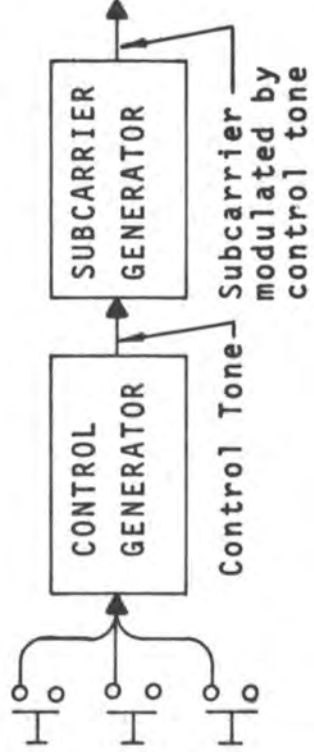
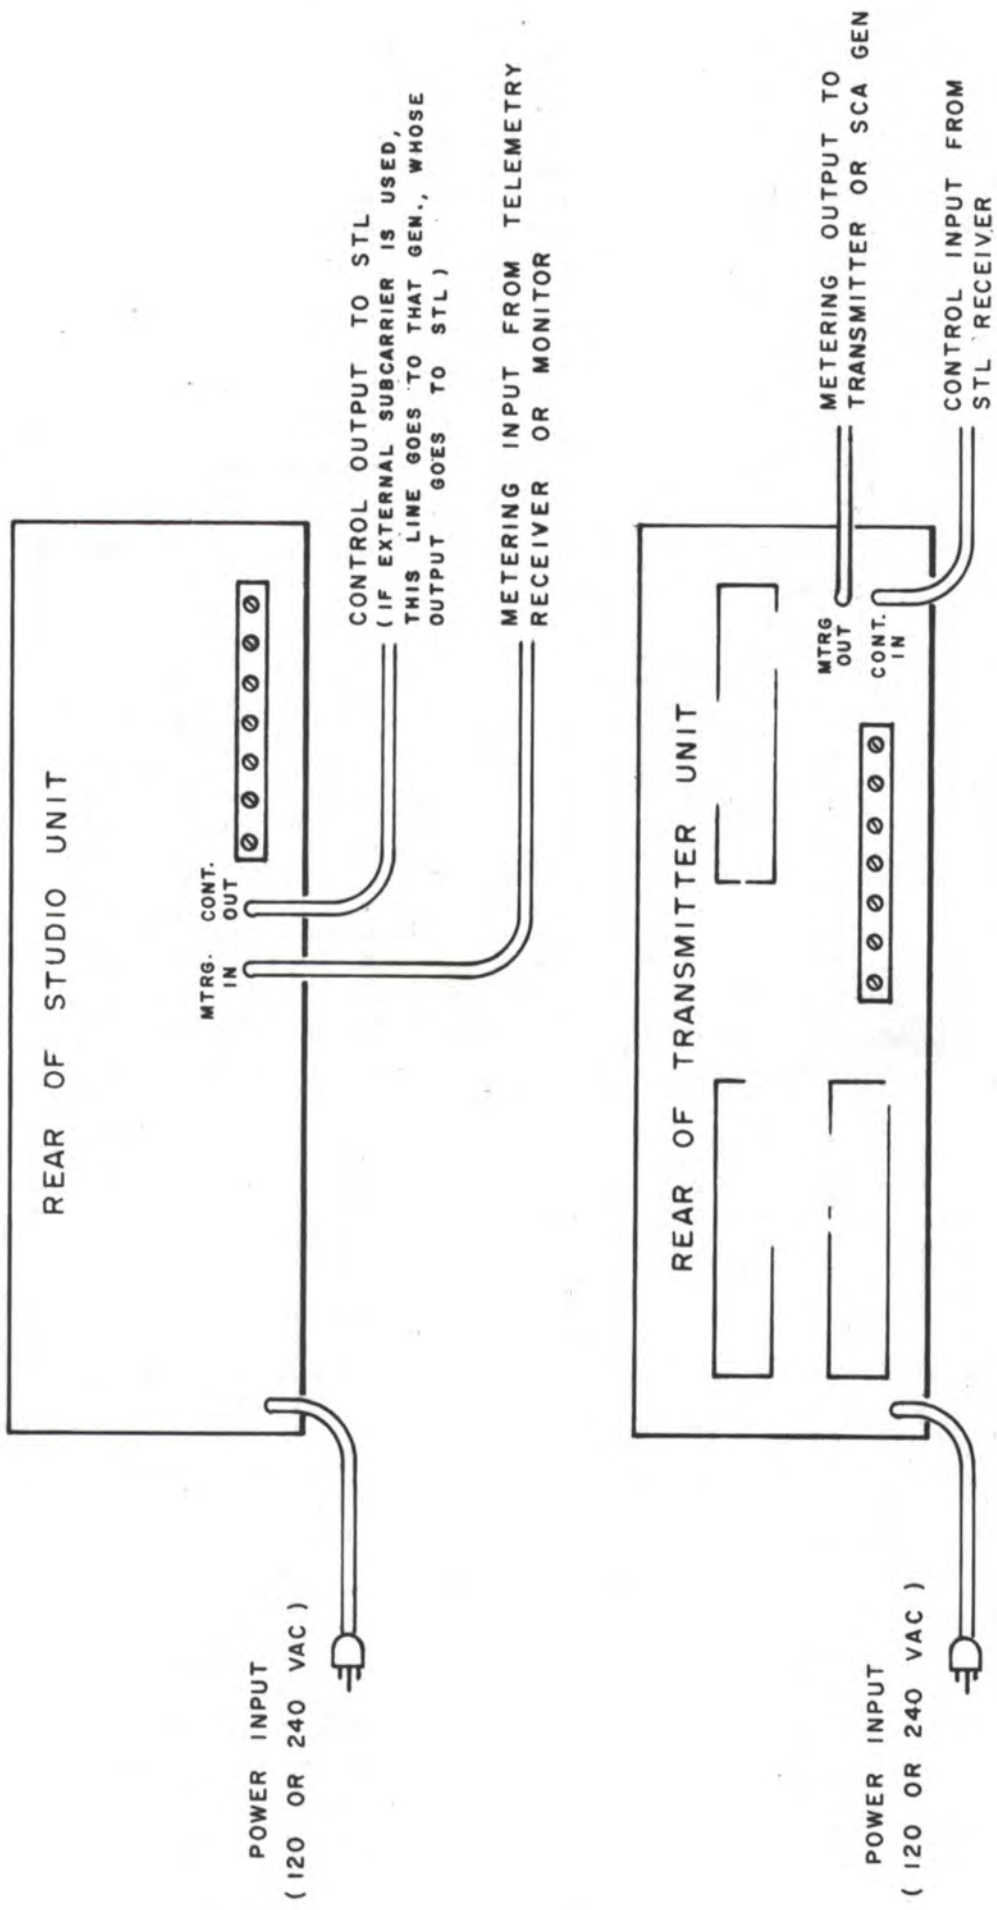

Fig. 2 - Basic Wireless FM version of the TRC-15A.
FIG. 6 - WIRELESS INTERCONNECTIONS
The wire-line system is illustrated in block diagram form in Figure 1, and the elementary radio system is illustrated in Figure 2.
If the telephone line interconnection is not used, the control signals are sent to the transmitter site by using subcarrier techniques. As shown in Figure 2, the control generator at the studio frequency-modulates a subcarrier generator. The output of this subcarrier generator is then applied to the multiplex or subcarrier input of an STL (microwave) transmitter. In this manner, the control signals "ride piggyback" on the STL going to the transmitter site. This subcarrier generator is a standard addition to the studio unit of the TRC-15AR for wireless operation.
Equipment shown is the same as in Fig. 2 with added optional subcarrier equipment for metering return. A subcarrier generator has been added for telemetry-only service at "A", and an internal subcarrier has been added for demodulation of this subcarrier at "B".
If the FM transmitter does not contain an SCA generator, then a subcarrier generator is installed at the transmitter site as shown at "A" in Figure 2. If program service is to be accommodated, the Moseley Associates Model SCG-4T SCA Generator is recommended. No modifications are necessary to it or to the TRC-15AR for such operation. If program service is not a requirement, then an internal subcarrier generator can be added to the TRC-15A transmitter unit as shown in Figure 3. This telemetry-only SCA generator is installed in place of the subcarrier generator jumper/terminating board in the TRC-15AR transmitter unit. Such an added subcarrier generator at the transmitter site is an available option which may be added to the standard wireless TRC-15AR.
Figure 4 illustrates a modification of the wireless FM installation applicable for wireless AM broadcast transmitters. Here the control tones are conveyed to the transmitter site as in Figure 2, but the metering tone is returned to the studio directly on the main AM broadcast signal. As in the case of FM with its SCA subcarrier, the metering signal is in the 20 Hz to 30 Hz range. The modulation of the AM carrier by the subaudible metering signal is set to about 5%. (6% is the maximum allowed by the FCC Rules.)
Fig. 4 - Wireless AM version of the TRC-15AR. Note the similarity to the Fig. 2. At "A" is a standard broadcast (AM) transmitter, and at "B" is an AM receiver tuned to that frequency. TRC-15AR equipment involved is the standard wireless system (TRC-15AR).
Figure 6 illustrates subcarrier and radio equipment connections and should be understood to avoid error. Occasional reference to Figures 2 and 3 may be helpful. At the studio the control output connection will normally deliver a subcarrier frequency-modulated by the control tone. This subcarrier will be routed to the STL transmitter multiplex or subcarrier input. If the TRC-15AR internal subcarrier generator is not used, it is replaced by a jumper/terminating board, and the control output connector will deliver the control tone itself. This tone may be routed either to an external subcarrier generator at the studio, or it may be applied directly to the modulator of some other system whose output is ultimately at the transmitter site.